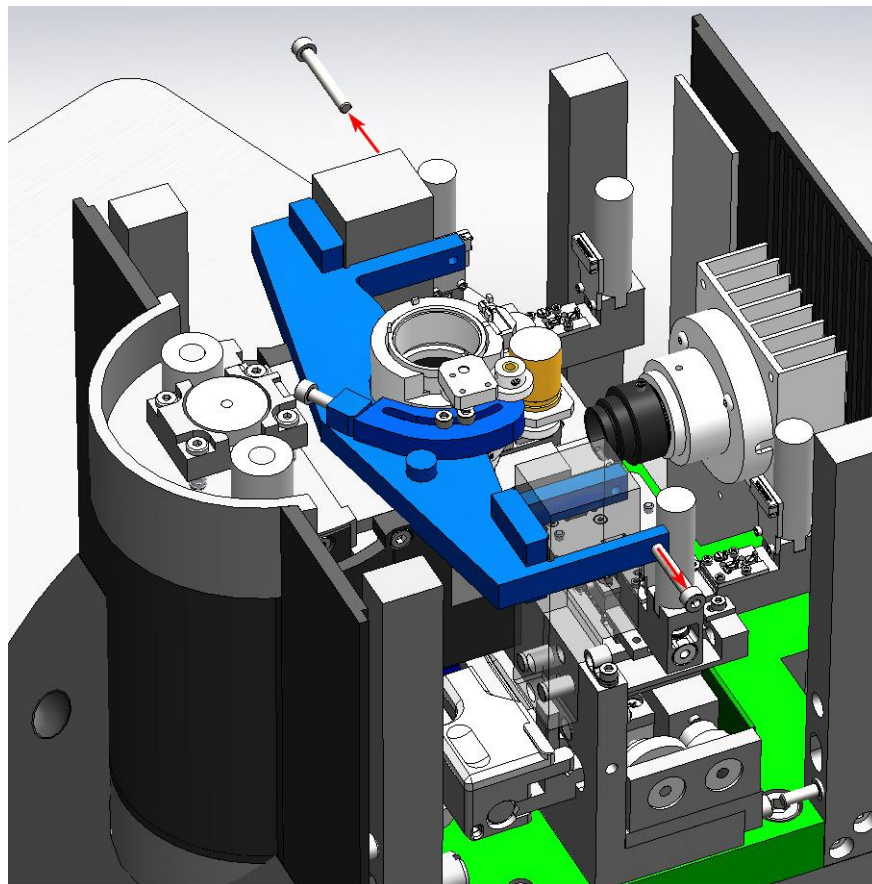

Fig. 3-3
3. Unscrew two screws M3 that fix the bracket on pillars of the videomicroscope carriage (Fig. 3-3).